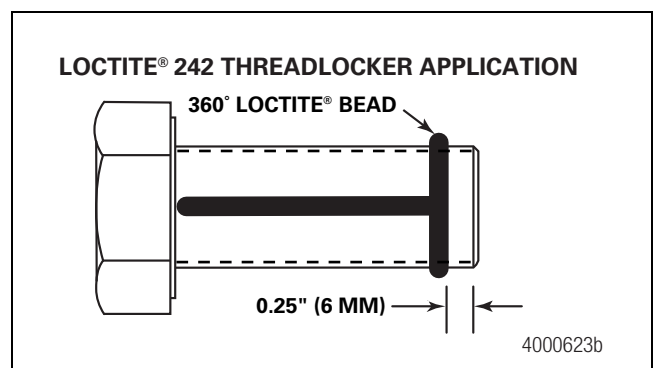

Figure 4.12
13. Apply a 0.125-inch (3 mm) bead of Loctite® 242 threadlocker around the capscrew threads approximately 0.25-inch (6 mm) from the end. Apply a 0.125-inch (3 mm) bead of Loctite® 242 threadlocker across the length of the threads. Figure 4.12.